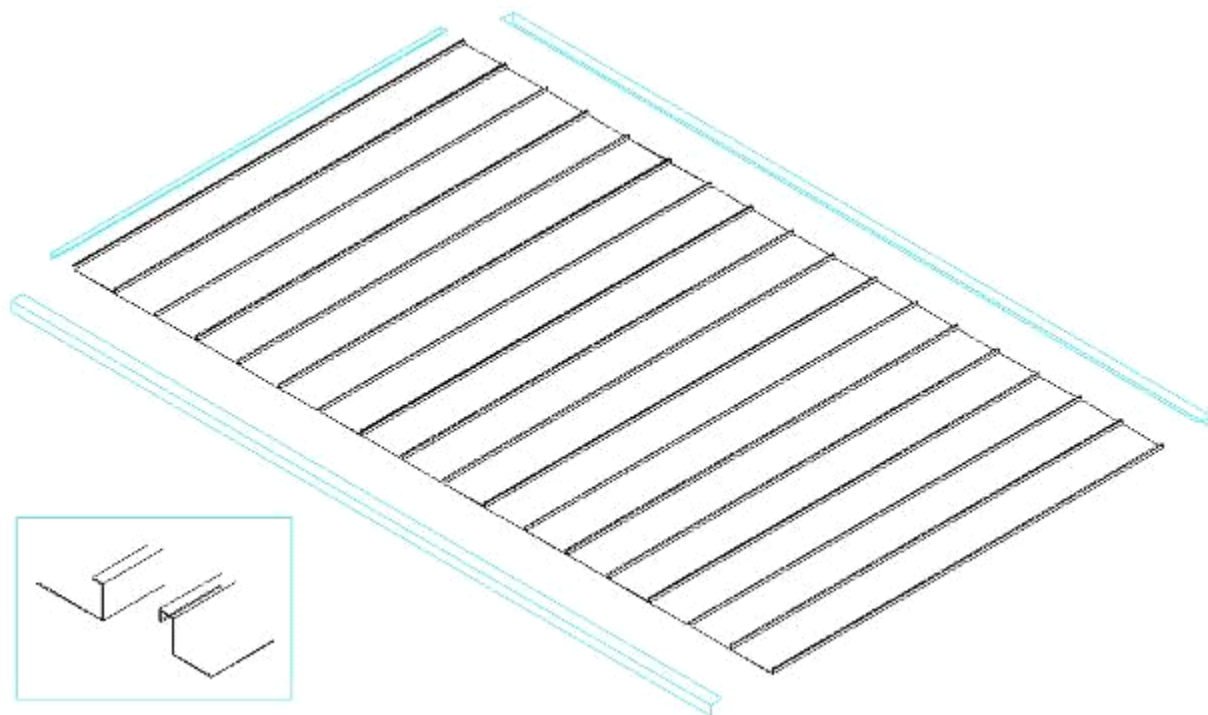

Fig. 3.16
4. Installate the roof cover ,connect one by one,then fix them on to the roof support beam with nails.And do some sealing with the transparent pastern shown in Fig.3.16